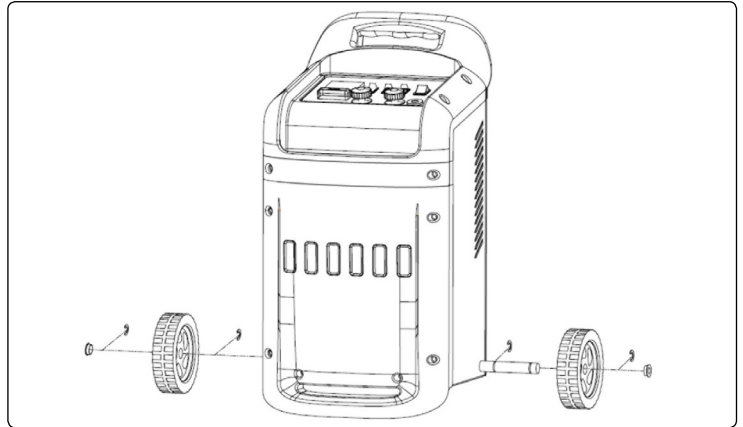

Fig.2
- 4.8.2. To initiate rapid charging turn the fast-charge timer device (bottom right hand switch, fig.2) to the required charging time in minutes and turn the charging level rotary (top left switch to the 2 timer position).
- 4.9.5. **Move the top left hand switch to the 'START' position (see fig.2). Turn the vehicle ignition on and crank the engine for a MAXIMUM of 3 seconds. If the vehicle does not start, wait 120 seconds and then try again to a maximum of 5 cycles.**
- 4.10. **FUSE see fig.2**